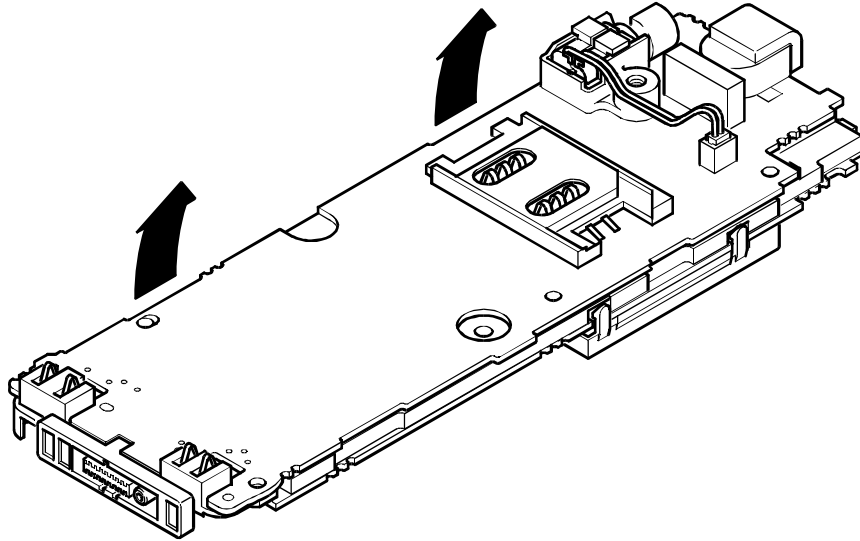

Figure 4: RF board removal
4. (Figure 4) Separate the RF board from the Logic board.